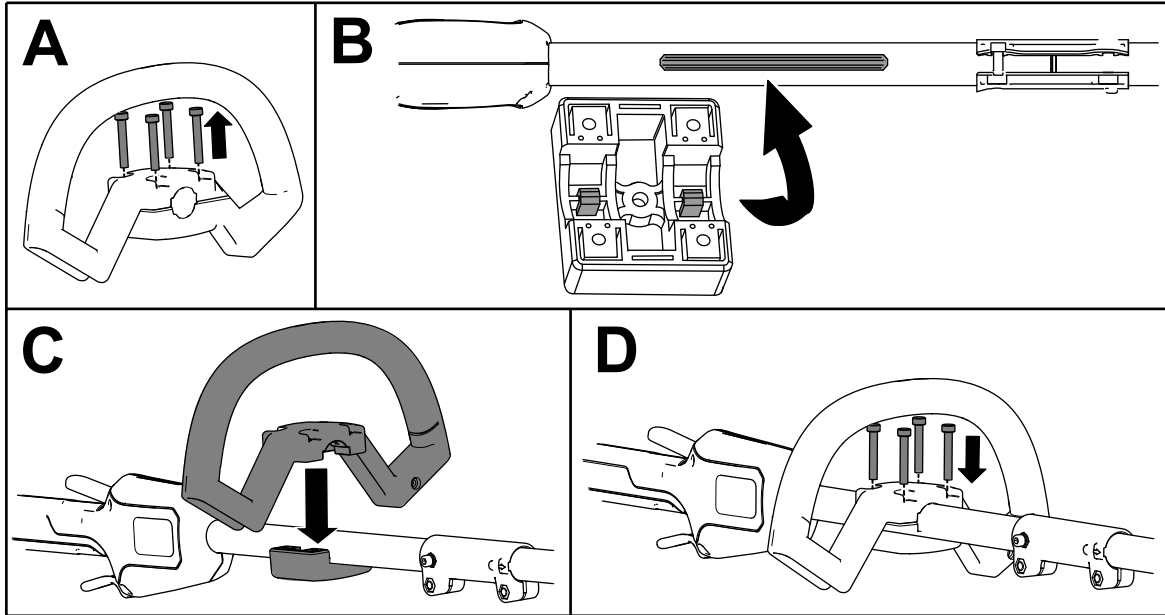

Figure 5
1. Separate the auxiliary handle from the handle plate by removing the 4 socket head screws using the provided Allen wrench (A of Figure 5).
2. Line up the guides on the auxiliary handle plate to the guide on the bottom of the shaft (B of Figure 5).
3. Line up the auxiliary handle with auxiliary handle plate on the shaft (C of Figure 5).
4. Secure the auxiliary handle to the handle plate with the 4 socket head screws previously removed (D of Figure 5).